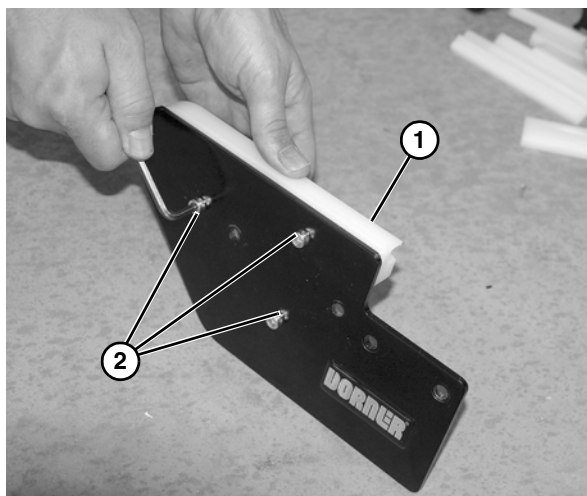

Figure 72
9. Check idler terminal assembly (**Figure 72, item 1**) for wear. If worn, remove three low head cap screws (**Figure 72, item 2**) and replace.